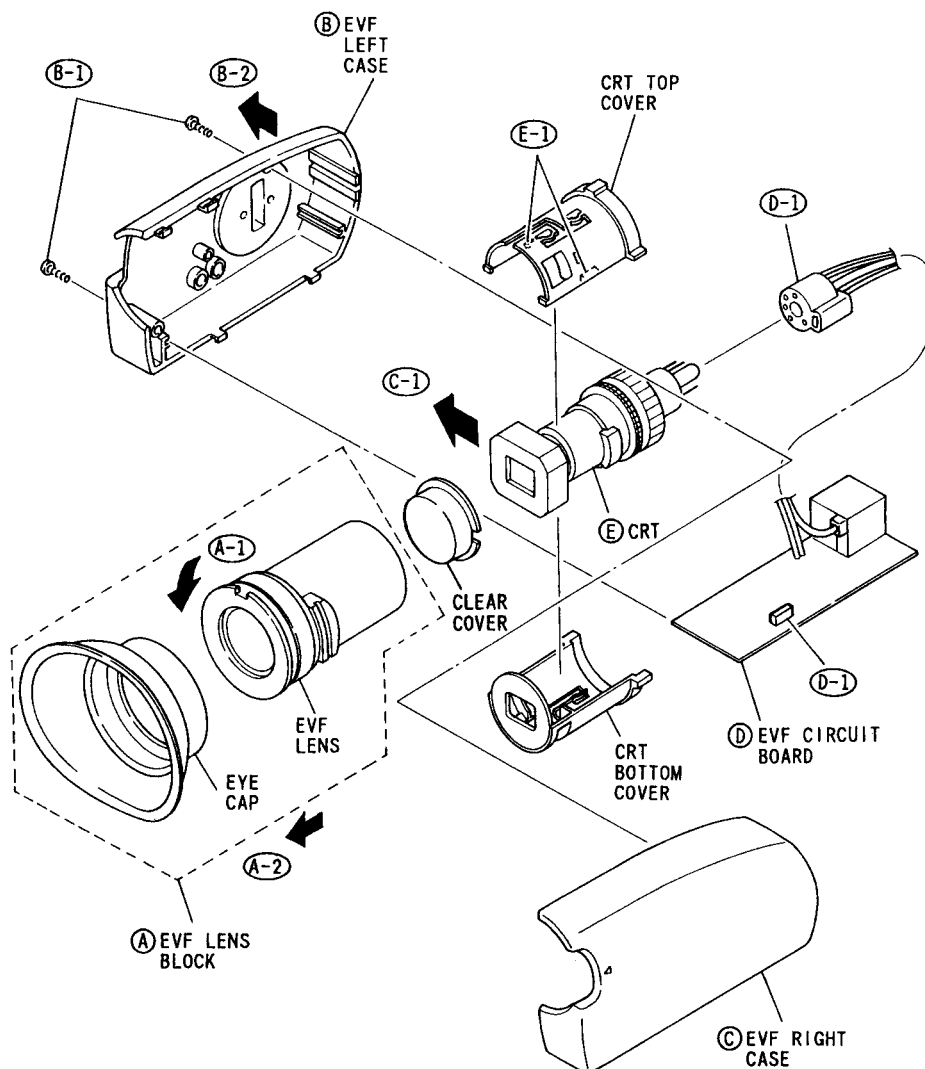

Fig. 3-7
A. EVF Lens Block (Fig. 3-7)
B. EVF Left Case (Fig. 3-7)
- 1) Remove two (2) screws.
C. EVF Right Case (Fig. 3-7)
D. EVF Circuit Board (Fig. 3-7)
E. CRT (Fig. 3-7)